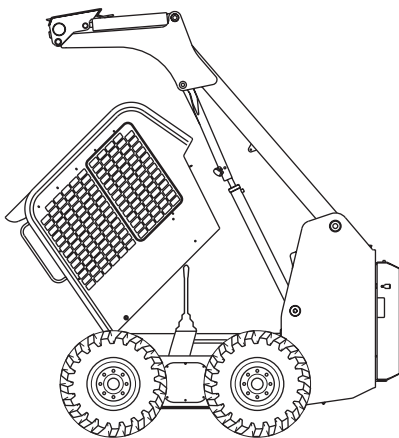

Figure 2-9 Vehicle in Service Position
- At the front of the vehicle, grasp both front hand holds and tilt the Operator's Protective Structure forward until it locks securely in the raised position (Fig. 2-9).